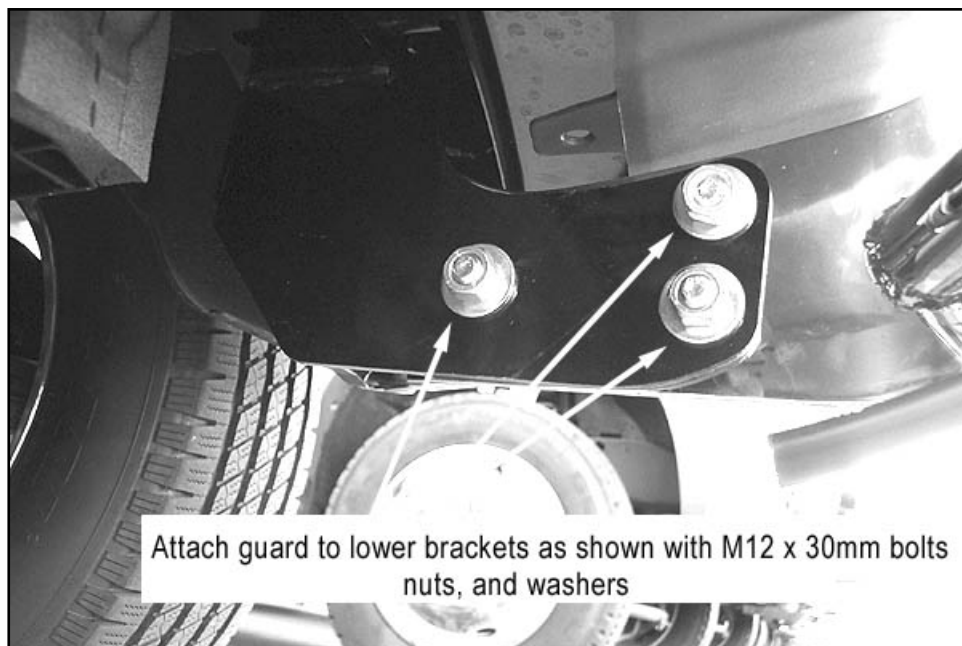

Fig. 6
4. Position guard to the outside of bottom brackets and secure to brackets as shown in fig. 6. Attach upper support brackets to guard and align guard with vehicle. Fully tighten all hardware at this time.